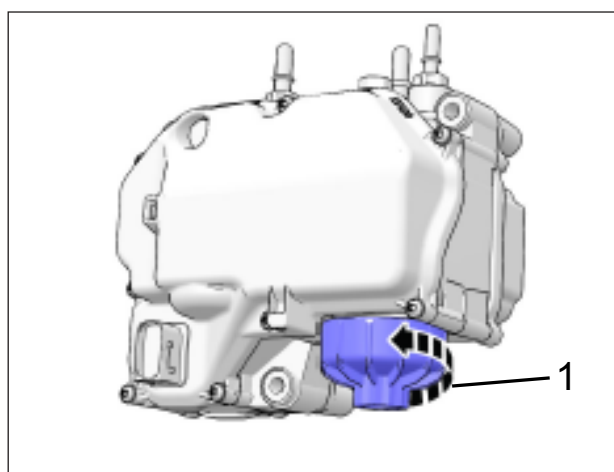

Figure 6.10 - Undo Filter cover.
5. Undo the filter cover see item 1 Figure 6.10.